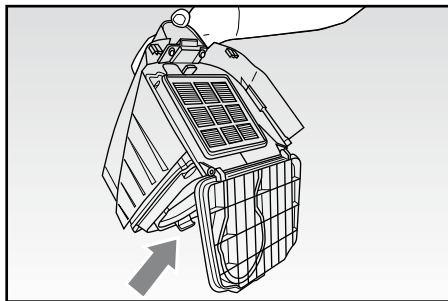
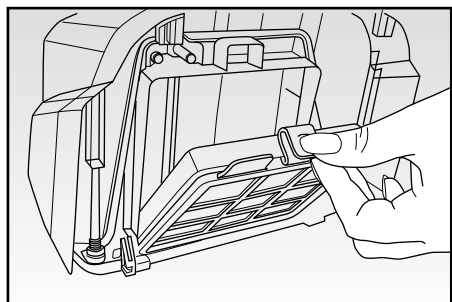

Fig. 7
Fig. 8
- Open the door through the apposite lever (Fig. 7).
- Empty the dust container (D).
- To clean the inside of the container (D), it is possible to remove the washable filter by pulling it outwards (Fig. 8).
- Close the hatch and refit the dust container (D) onto the body of the appliance so that it clicks in place.